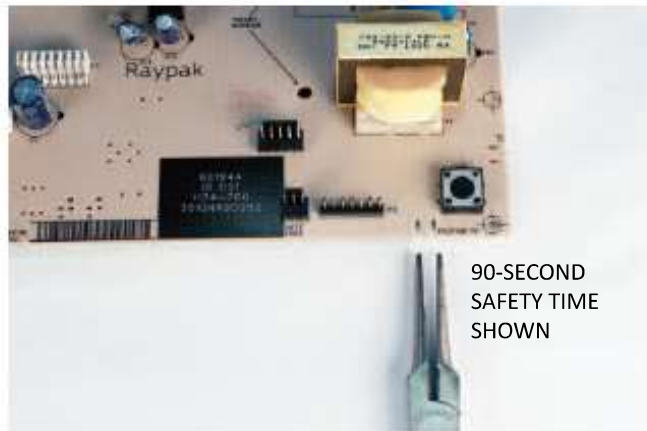

Figure 16. Break Off Tab with Pliers
2. Break off tab with pliers as shown in Figures 16 & 17.